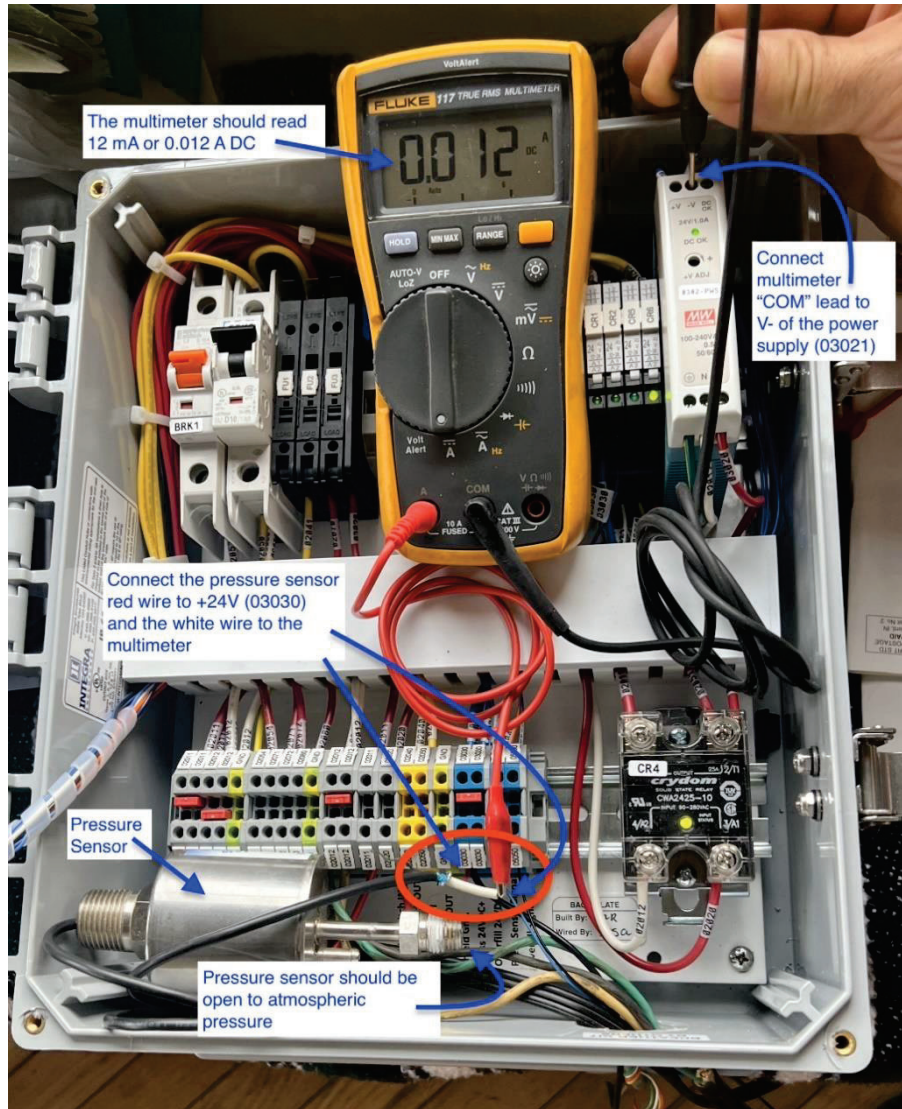

Figure 8-15: Example of Fluke multimeter and Pressure Sensor connection for test
- NOTE: The Pressure Sensor test procedure can be done by removing the Pressure Sensor from the GREEN MACHINE and testing the Pressure Sensor at the Control Panel. See **Figure 8-15**.
See Figure 8-15